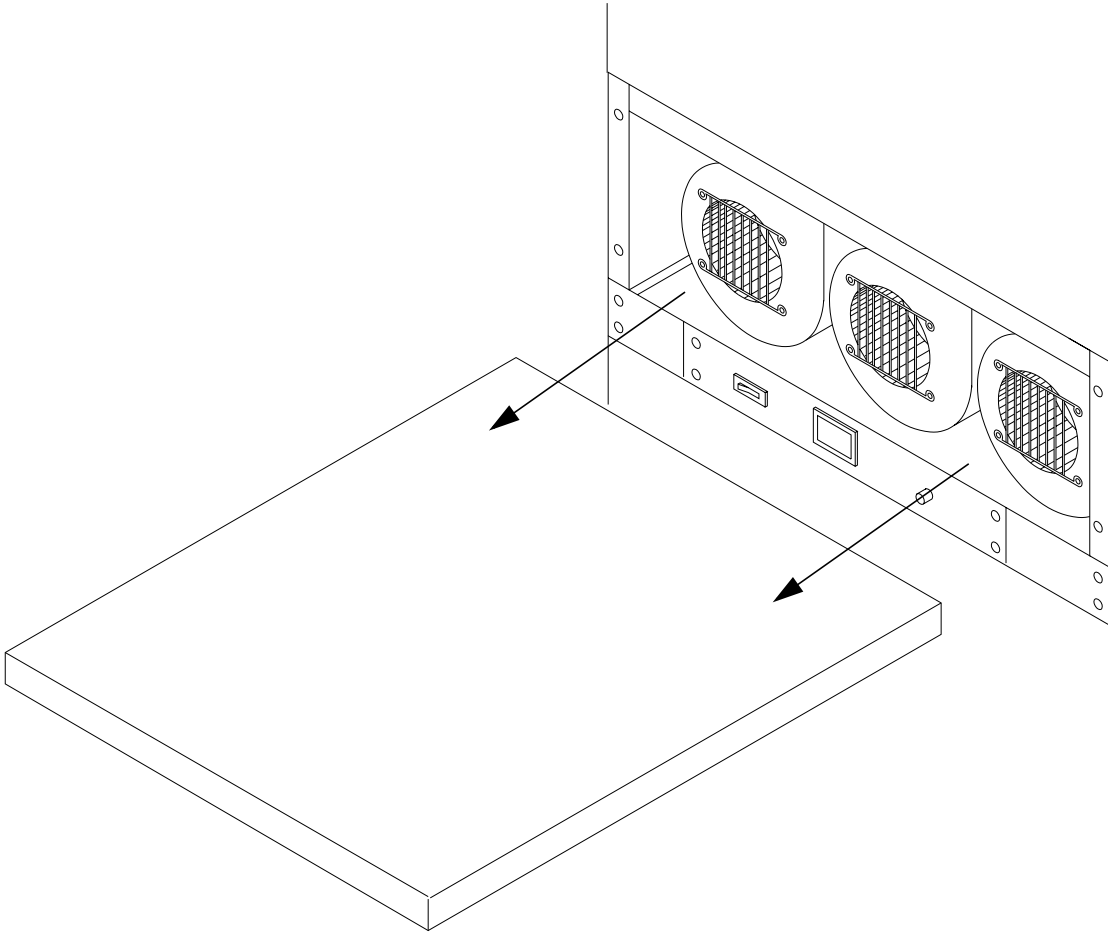

FIGURE 2-2 Removing the Foam Shipping Brace
4. At the bottom of the cabinet, locate the foam shipping brace under the blower fan assembly and remove it. See FIGURE 2-2.